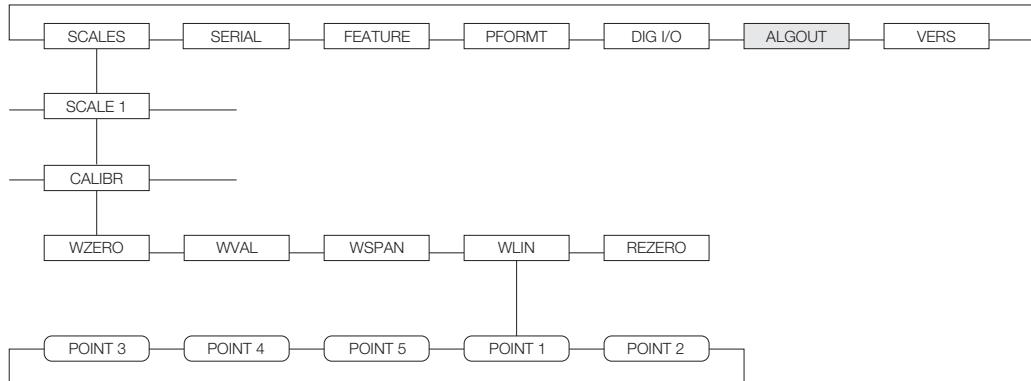

Figure 4-1. Calibration (CALIBR) Submenu
- highlight the **CALIBR** submenu (see Figure 4-1). Press **Down** to go to zero calibration (**WZERO**). See Figure 4-2 on page 45.